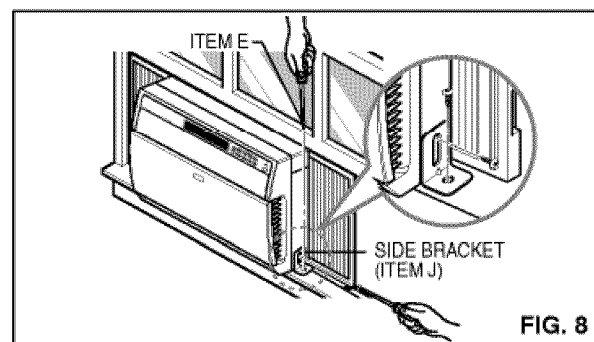

FIG. 8
- Attach the side bracket (ITEM J) in the inner window sill with a screw (ITEM E), as shown in FIG. 8, after removing the existing screw at right bottom side on cabinet.